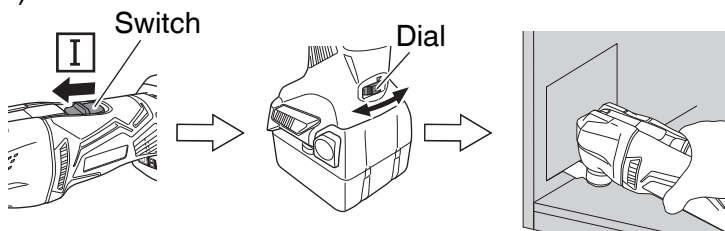

Fig. 9
1. Switch the unit on and use the dial to set the speed of the application tool.(Fig. 9)
2. Lightly place the application tool on the material and move the application tool forward at a pace where the movement isn't slowed. (Fig. 9)